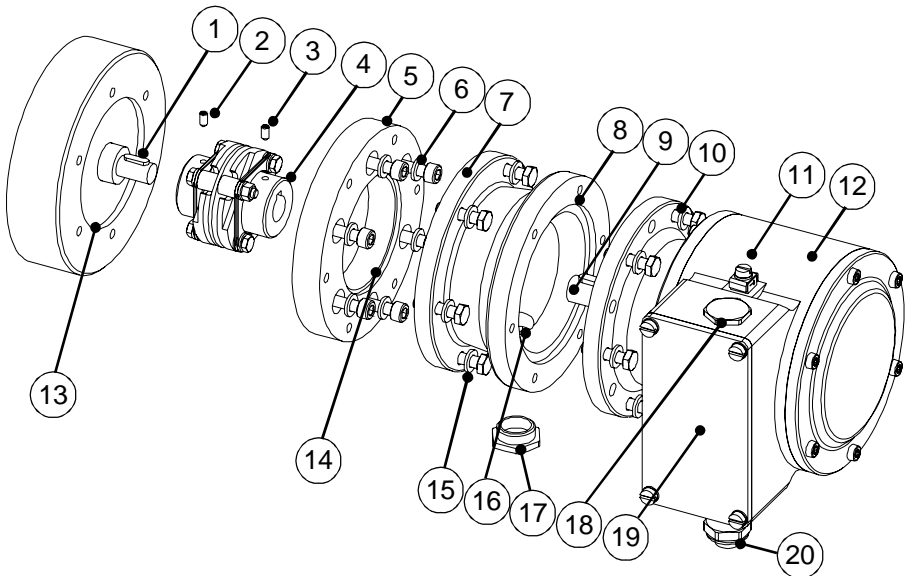

Fig. 1: FG 41 (mounting example B5)
- Axial slipping of the measuring system on the drive shaft must be prevented by the coupling fixing, see Figure 1
- Radial slipping (slip) of the measuring system on the drive shaft must be prevented by means of form closure by using a parallel key / groove combination (Figure 1,) a coupling with groove must be used for this purpose.